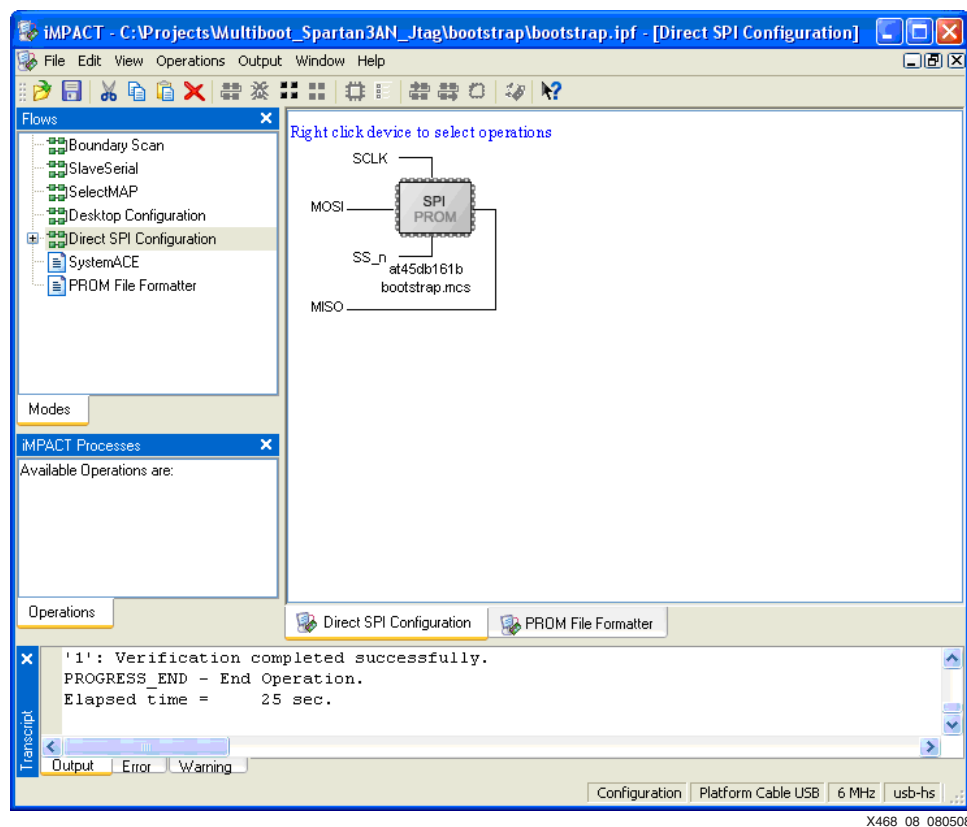

Figure 8: iMPACT Software for Direct SPI Configuration of Bootstrap Bitstream
3. Right-click on the image of the **SPI PROM** (Figure 8) and select the **Program** command from the menu. Press the PROG_B button on the starter kit board, and while holding it down, click **OK**. Holding the PROG_B button prevents any bitstream that is already in the PROM from actively driving the SPI bus while the iMPACT software is trying to drive the bus.